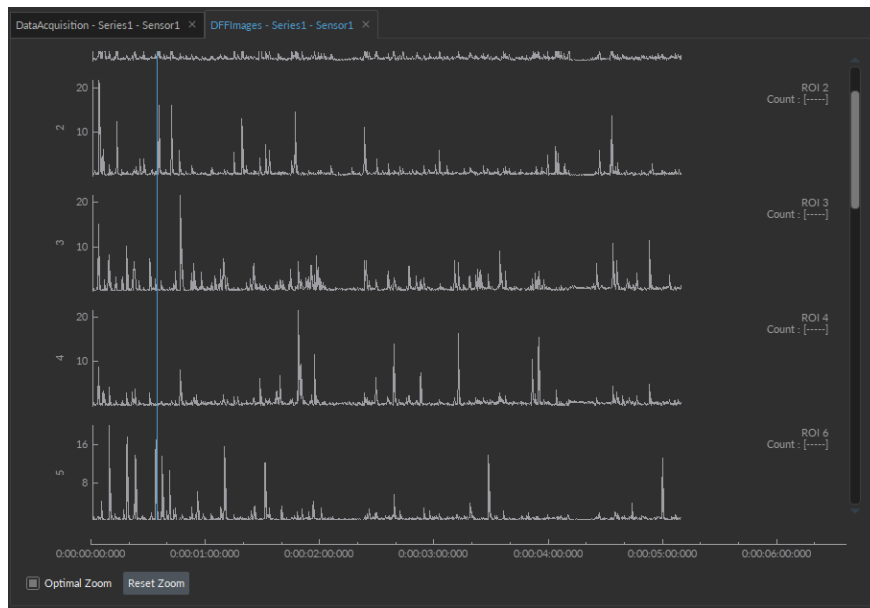

Figure 16.10: ROI View Graph
3. The **ROIs View** panel shows the plot of average intensity as a function of the frame index. The Y-axis represents the average count of all the pixels of the ROI or the variation to the baseline for ROI on normalized images. Each trace on a separate graph represents an ROI, allowing for precise intensity measurements (see Fig. 16.10)